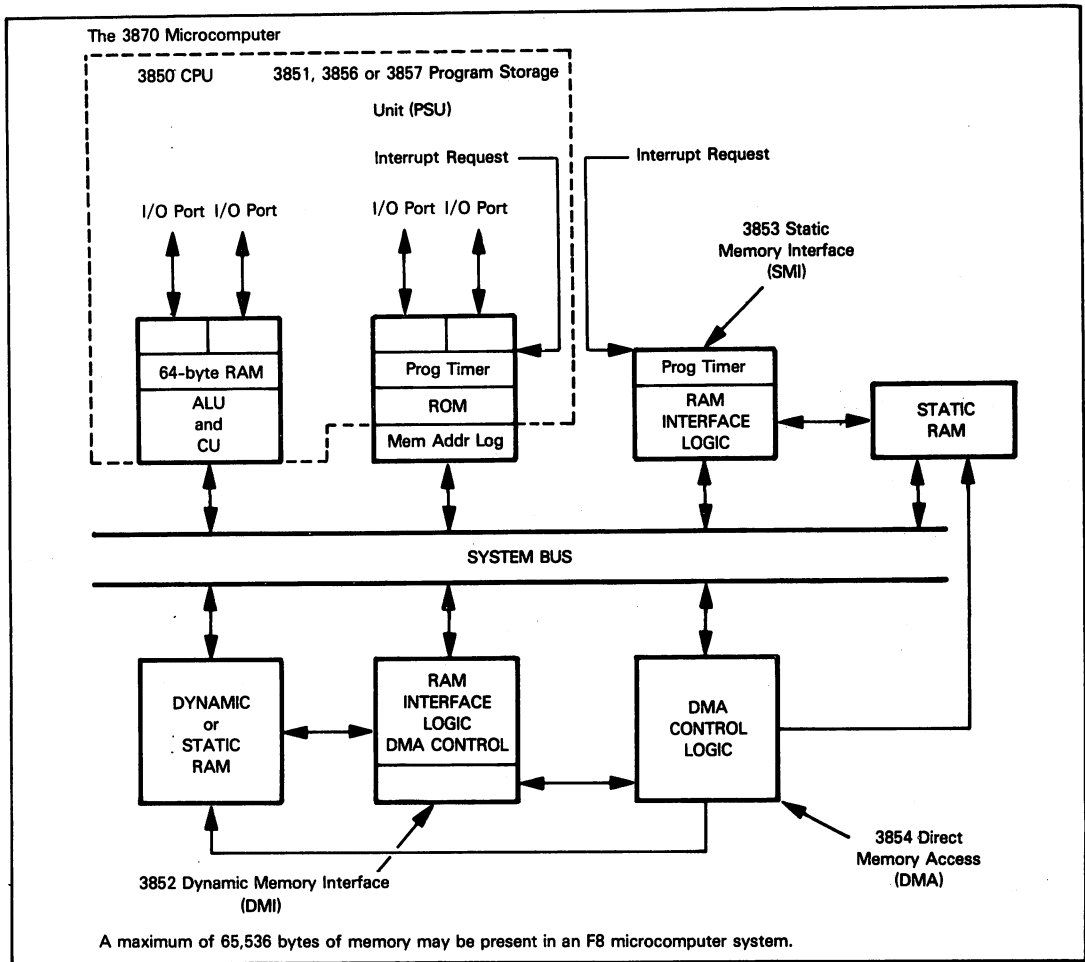

Figure 2-1. A Fairchild/Mostek F8 Microcomputer System
**Figure 2-1 illustrates logic associated with individual F8 devices, and the 3870 one-chip microcomputer.**